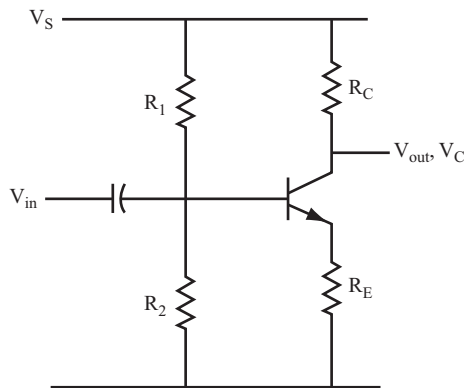

FIGURE 12.11
49. Using the amplifier circuit shown in Figure 12.11, find the values of R_1 , R_2 , and R_E that can provide the amplifier with a voltage gain of 10. Use $V_s = 28 \text{ volts}$, $R_C = 1 \text{ k}\Omega$, and $\beta = 100$. _____
50. Again, using the circuit shown in Figure 12.11, find the values of R_1 , R_2 , and R_E that can provide the amplifier a voltage gain of 20. Use $V_s = 10 \text{ volts}$, $R_C = 2.2 \text{ k}\Omega$, and $\beta = 50$. _____
51. Using the circuit shown in Figure 12.11, how would you modify the amplifier in question 50 to obtain a maximum gain? Assume that the lowest frequency it has to pass is 50 Hz. _____